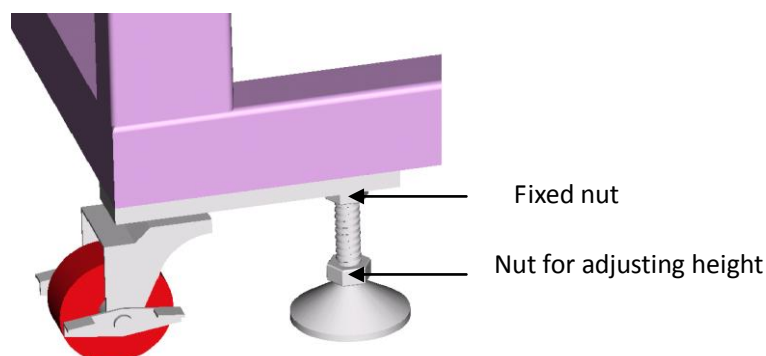

Figure 4.1
(1) After selecting the site, move this machine to the designated site and coordinate with the production line.
(2) Mechanical height adjusting: use a wrench to loosen the lock nut under the machine frame, and then adjust the height by adjusting the nut, until required mechanical height is reached. Last, turn tightly the lock nut. (Figure 4.1)
(3) Mechanical level adjusting: use a wrench to loosen the fixed nut under the machine frame, take the conveyor belt level of shrink oven as a benchmark to adjust the height by adjusting the nut, and make the conveyor belt in the horizontal plane. After that, lock the nut tightly.